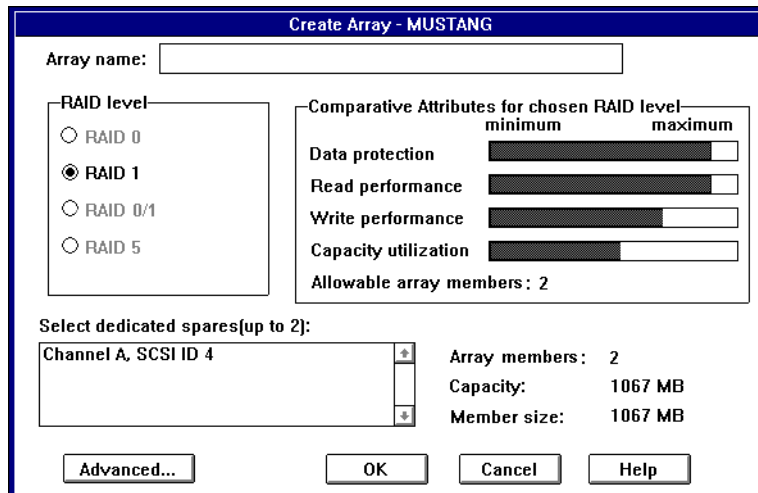

Figure 8-4. Create Array Dialog Box
- 4 Click the **Create Array...** button. The Create Array dialog box appears, as shown in Figure 8-4.